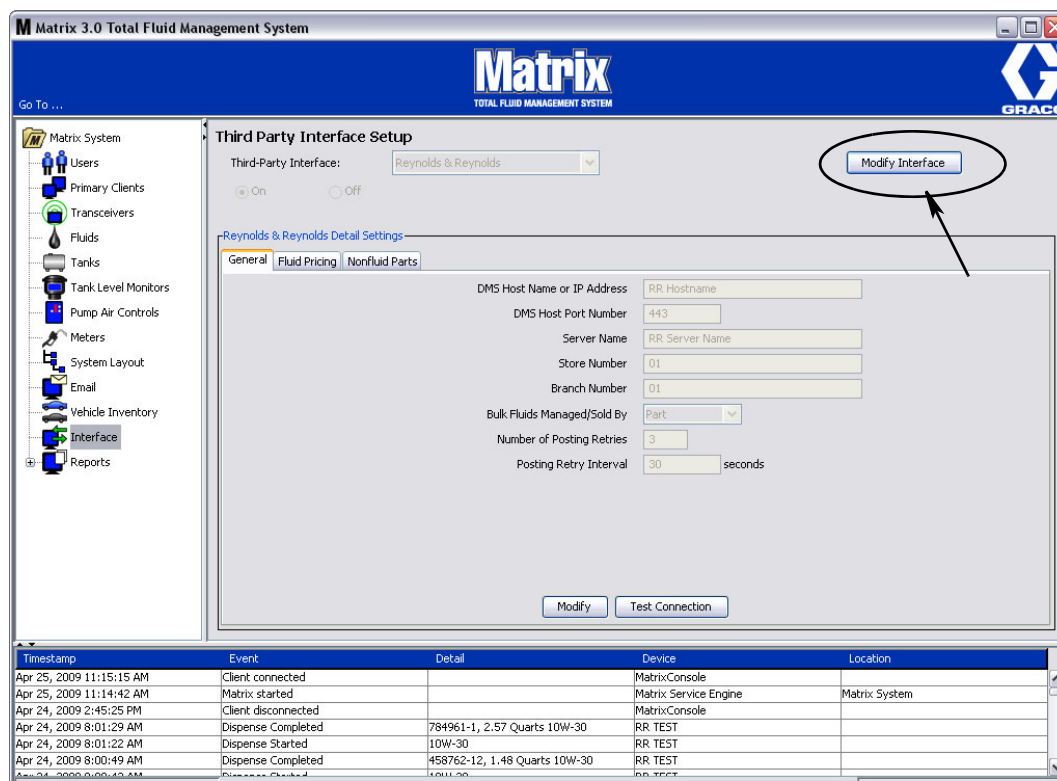
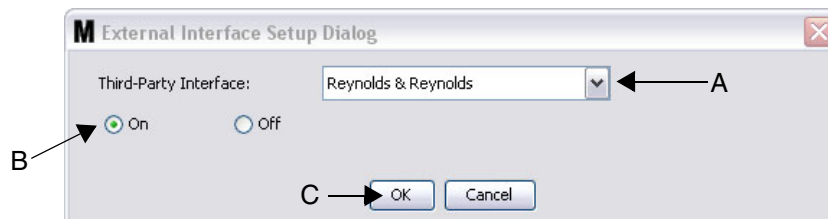

FIG. 168 Reynolds & Reynolds General Setup Screen
FIG. 169 External Interface Setup Dialog
The Reynolds & Reynolds General Setup screen (FIG. 168) contains all the setup configuration information necessary for Matrix to apply the appropriate fluid charge to an Reynolds & Reynolds Repair Order (RO).
1. Click the **Modify Interface** button (FIG. 168). The External Interface Setup Dialog box shown in FIG. 169 displays. This dialog box is used to specify the Third Party Interface you are using.
2. From the drop down menu (A - FIG. 169) select Reynolds & Reynolds DEALER MANAGEMENT SYSTEM, since you are setting up the Reynolds & Reynolds Interface.
3. Click “ON” (B - FIG. 169) *Third Party Interface Enabled* - Tells Matrix whether to use the third party interface by selecting either “yes” or “no”. The default setting is “no”. This element globally turns on or turns off the interface..
4. Click the OK button (C) to close the screen and confirm your selection.
1. Click the **Modify** button (FIG. 168, page 130) to display the Reynolds & Reynolds DMS Connection Setup dialog box used to define the DMS.